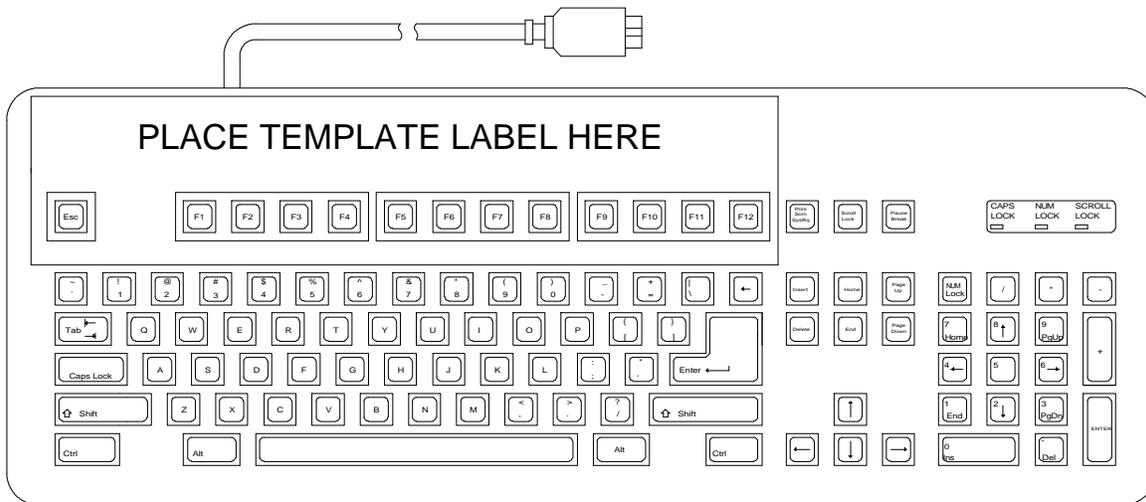

Figure 1 Keyboard Label
13. Clean the keyboard surface to remove dirt and dust. Peel the backing off the Keyboard Label (0682-1109-01) and place the label around the Function keys as shown in Figure 1.